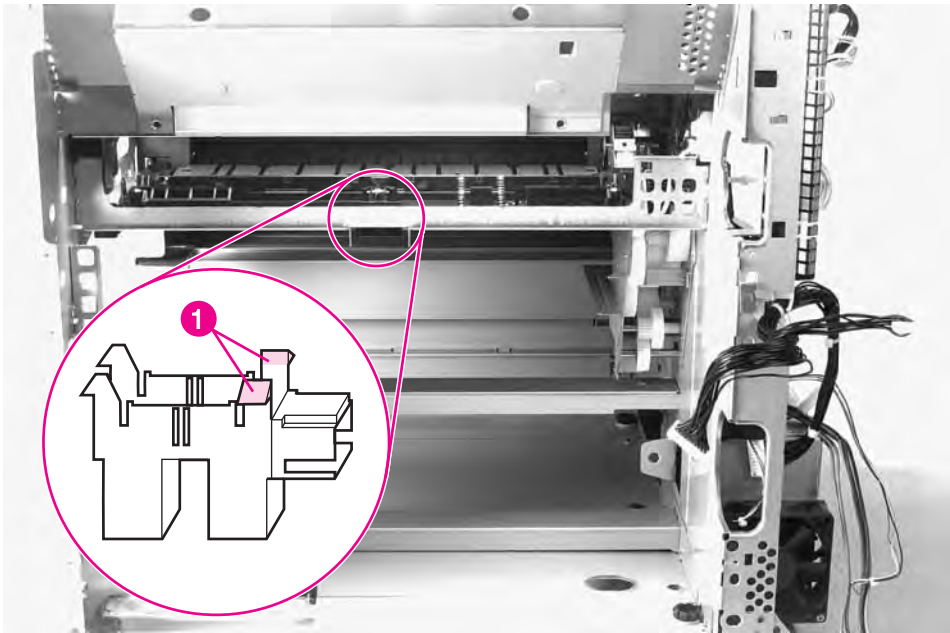

Figure 6-58 Registration Sensor (PS1)
- 3 Release the retaining tabs (figure 6-58, callout 1) on the right end of the sensor and rotate the sensor down to free the tabs on the left end of the sensor.